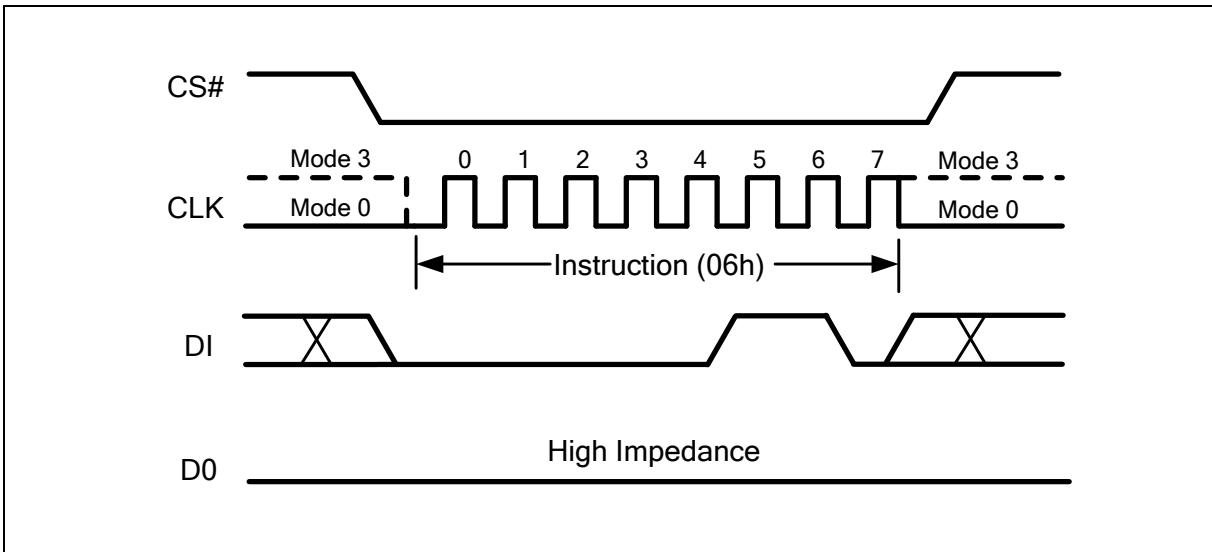
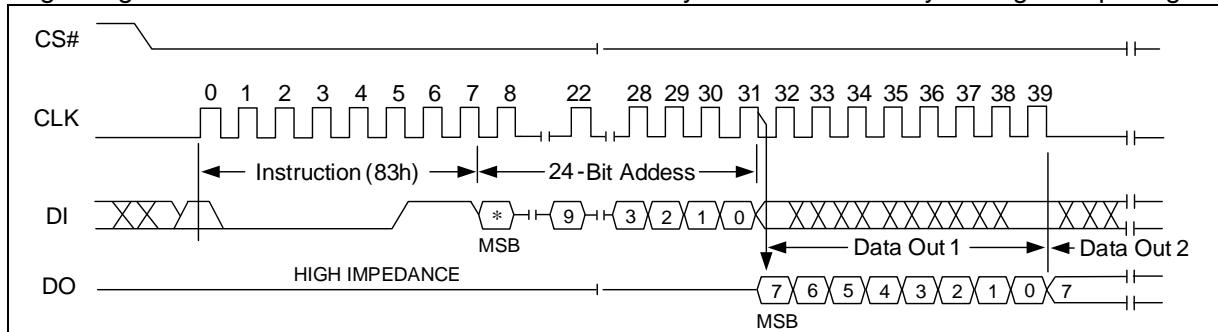

Figure 5 Write Enable Instruction
Figure 15 Read UID Number Sequence
Instructions vary in length from a single byte to several bytes and may be followed by address bytes, data bytes, and in some cases, a combination. Instructions are completed with the rising edge of edge CS#. Clock relative timing diagrams for each instruction are included in Figure 5 through Figure 15. All read instructions can be completed after any clocked bit. However, all instructions that Write must complete on a byte boundary (CS# driven high after a full 8-bits have been clocked) otherwise the instruction will be ignored. This feature further protects the device from inadvertent writes. Additionally, while the memory is being written, or when the Status Register is being written, all instructions except for Read Status Register will be ignored until the write cycle has completed.
The Write Enable (WREN) instruction (Figure 5) sets the Write Enable Latch (WEL) bit in the Status Register to a 1. The WEL bit must be set prior to every Write and Write Status Register instruction. The Write Enable (WREN) instruction is entered by driving CS# low, shifting the instruction code “06h” into the Data Input (DI) pin on the rising edge of CLK, and then driving CS# high.
The Read Unique ID Number instruction accesses a factory-set read-only 128-bit number that is unique to each FM25NM02A device. The ID number can be used in conjunction with user software methods to help prevent copying or cloning of a system. The Read Unique ID instruction is initiated by driving the CS# pin low and shifting the instruction code “83h” followed by a 24-bit address A23-A0 into the DI pin. Address bit A9 must be ‘1b’, upper address bits are don’t care, the lower address bits [A3:A0] define the byte address inside the UID. After which, the 128-bit ID is shifted out on the falling edge of CLK as shown in Figure 15. When the end of the 128-bit UID number is reached (16 bytes of data), the data word address will roll-over back to the beginning of the 128-bit UID number. The read UID cycle is terminated by driving CS# pin high.